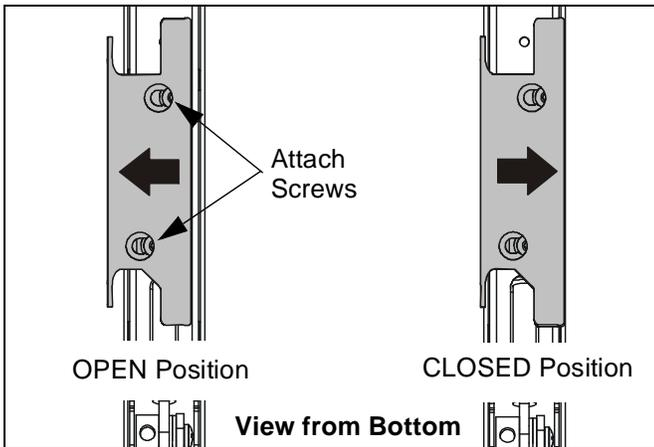

Figure 9
2. Open the cable management bracket by sliding it towards the edge of the arm (See Figure 9).
4. Close cable management bracket by sliding it back towards the centerline of the arm (See Figure 9).